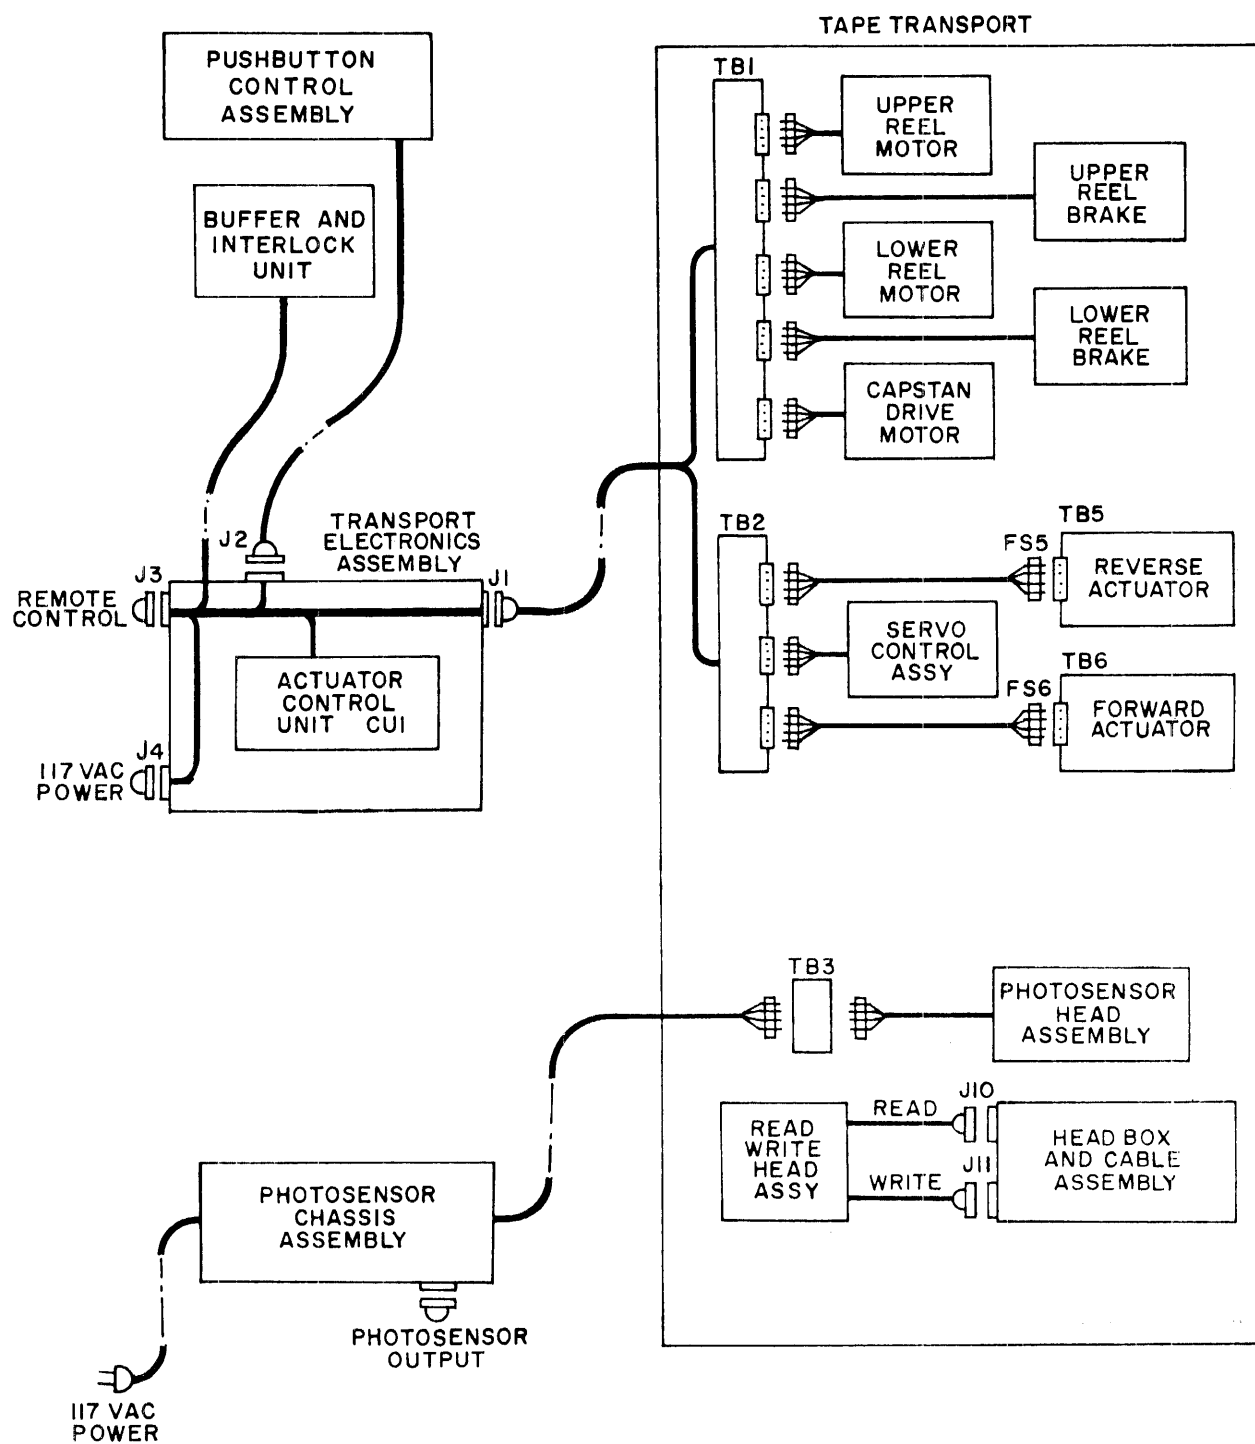

Figure 2-2.
2-14. TAPE TRANSPORT ASSEMBLY CABLE CONNECTIONS. (See Figure 2-2.)
Step 1: When a read-head is used, connect the read-head cable plug to the READ receptacle on the head cable and box assembly. (See Figure 2-2.) Head box read cable connections are shown in Table 2-2.